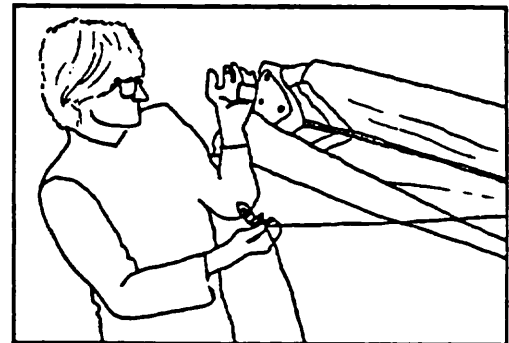

Figure 8
4) Flip the glider upright on the control bar, and remove the bag and all velcro ties. (Figure 8) *Do not remove the leading edge tip protector bags at this time. Do loosen the velcro on the tip protector bags as much as possible without detaching it.*